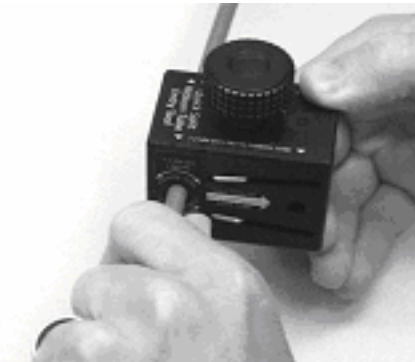

Figure 4 – Rotate the tool  $\frac{1}{2}$  turn to ring cut the buffer tube.
**6.5** Loosen the thumbscrew by turning it  $\frac{1}{4}$  turn counter-clockwise and rotate the Quick Split RT tool  $\frac{1}{2}$  turn around the ribbon buffer tube (Figure 4). After completing the ring cut, open the tool by rotating the handle counter-clockwise and remove the tool from the ribbon buffer tube. **Be careful not to nick the fibers when removing the tool from the buffer tube.**